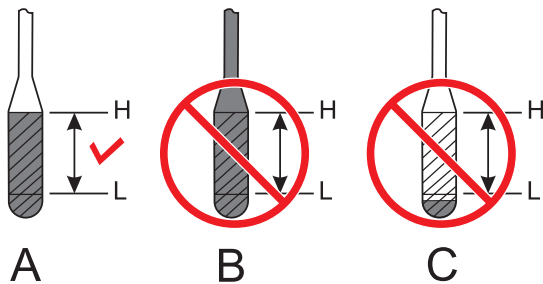

Figure 24. Engine Oil Level
3. Reinsert the dipstick, then remove the dipstick from its holder. Check the oil level shown on the dipstick (Figure 24).